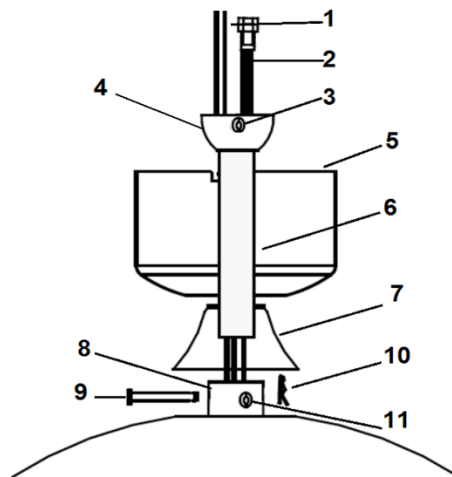

Fig. 6
- 1) Remove the ball joint (4) from down rod (6) by loosening the set screw (3), insert the motor wires (1) and LED light cable (2) through the down rod (6).
- 2) Insert the down rod to the coupling (8), line up the coupling holes with the down rod holes and insert the bolt (9). Then insert the pin (10) to the end of the bolt.
- 3) Secure the down rod and coupling by tightening the two set screws (11) on the coupling.
- 4) Feed the bolt and pin cover (7) and the canopy (5) through the down rod.
- 5) Secure the ball joint back to the down rod. Fig. 6